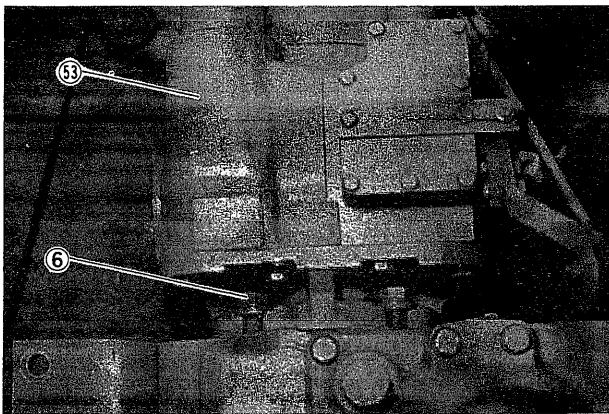

Fig. 42
(1) Remove bolts ⑥ securing hydraulic motor ⑤③ and remove hydraulic motor. (Fig. 42)